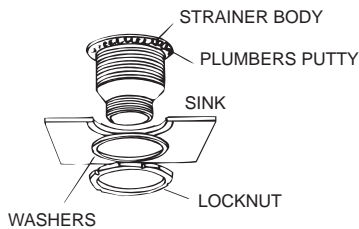

Figure 2
7. Install the basket strainer. First, clean around the drain hole with a damp cloth to remove any dust or other particles that may interfere with a watertight seal. Remove the washers and nuts from the basket strainer. Pack the underside of the basket with Plumbers Putty and push it firmly in place. Put the large rubber washer over the basket threads from under the sink, followed by the thin washer (may be made of paper, fiber, or metal). Thread the large metal lock nut onto the strainer body and tighten (see **Figure 2**).